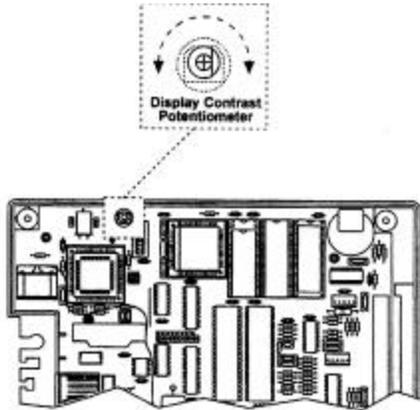

Figure 38: Display Contrast Potentiometer Location
- ##### 2. Adjust the contrast of the terminal's display. Refer to Figure 38.